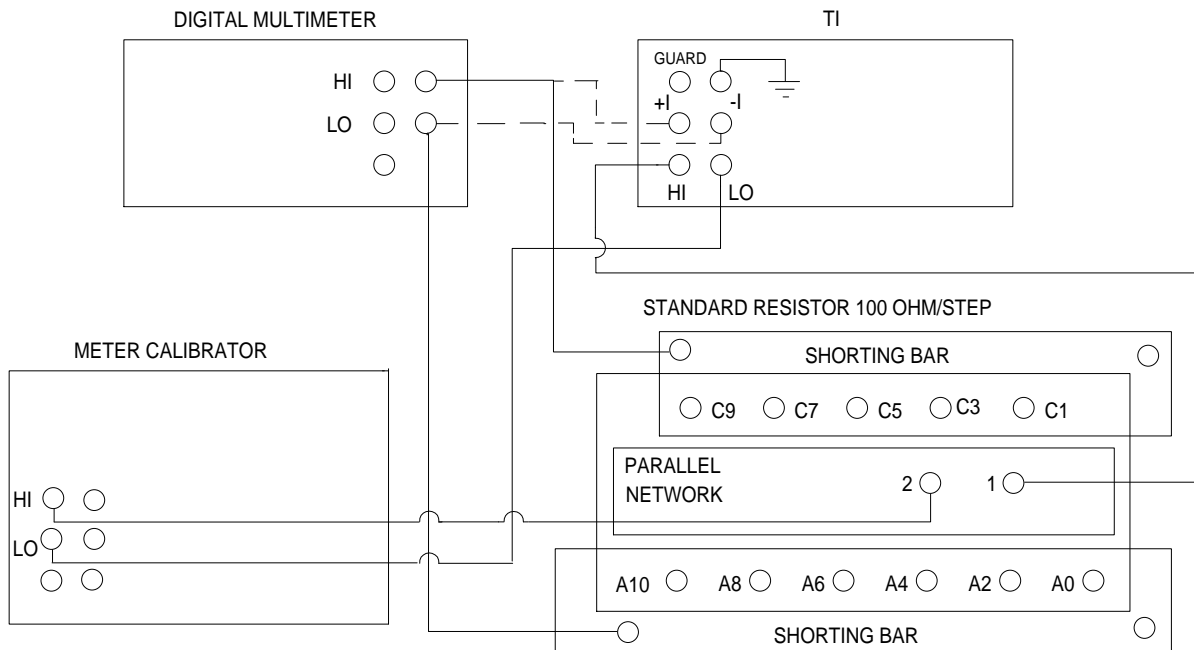

Figure 1A.
4.11A.1 Connect equipment as shown in Figure 1A, solid lines first.
- 4.11A.9 Transfer the Digital Multimeter leads to the TI I+ and I- terminals (dashed lines in Figure 1A).
- 4.11A.14 Refer to Table 2A and Figure 1A, select and connect Standard Resistor for the next range and applied value listed in Table 2A.
*¹ Record the computed resistance. In Figure 1A setup, move test leads from TI I+ and I- connectors to the HI and LO connectors and press TI REMOTE SENSE switch to Off. Compute resistance with this 100 Ω value. The computed resistance must be within ± 210.3 ppm of the TI indication. Press TI REMOTE SENSE switch to On and continue with step 4.11A.13.